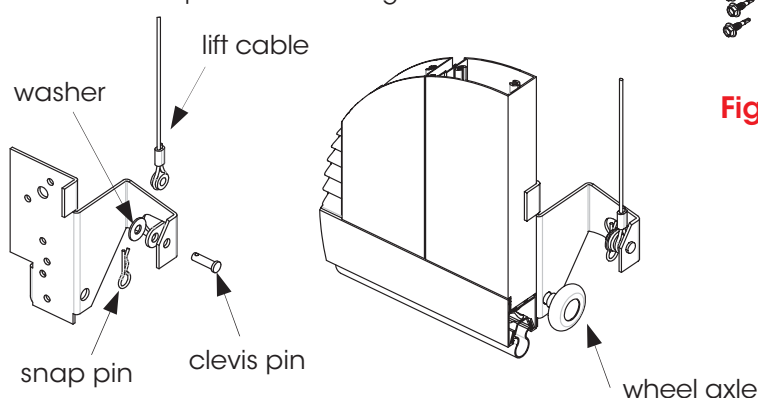

Fig: 5.2.2
- Attach the lift cable to the bottom hanger using a clevis pin, washer and snap pin. Fig 5.2.2
- Insert the wheel axle through the bottom hanger and bottom panel bracket. Fig 5.2.2.